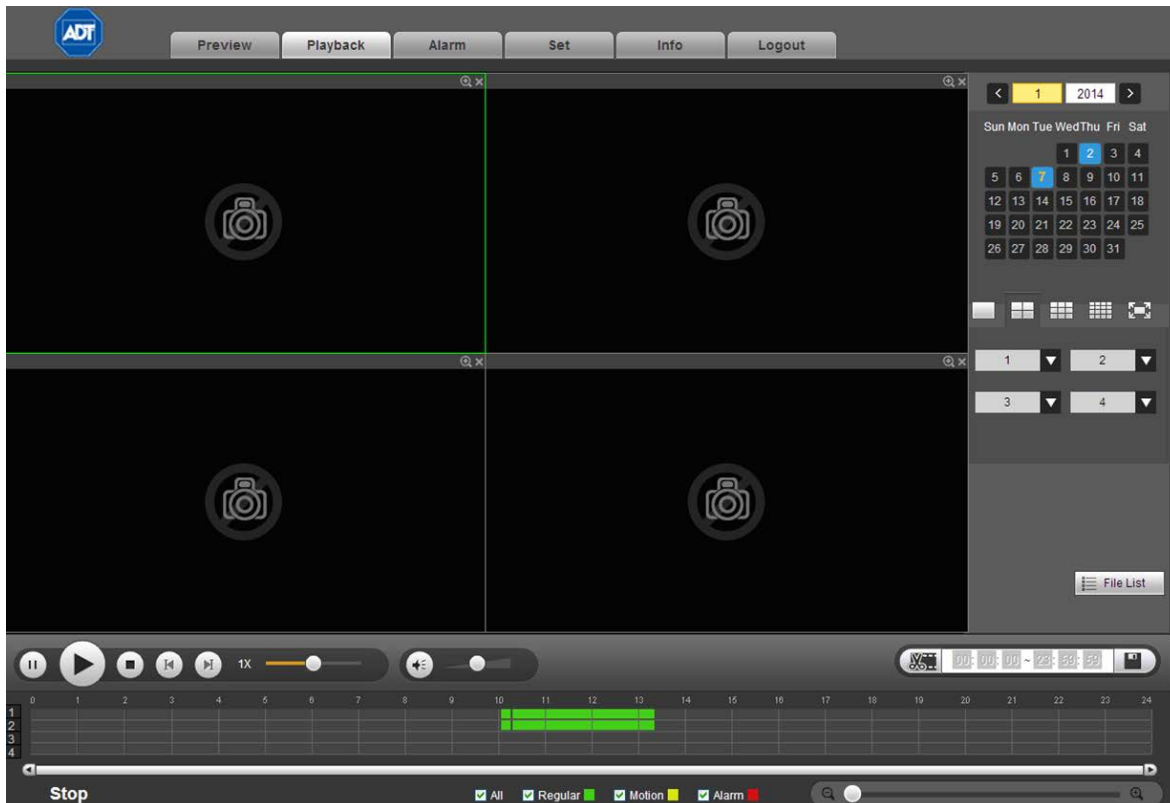

Figure 4-6
1. Click the **Playback Tab** button. The screen shown in Figure 4-6 appears.